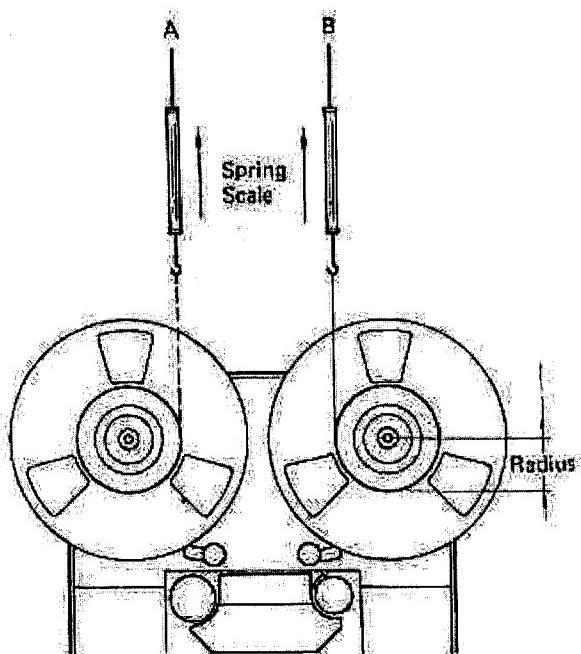

Fig. 9-4-2. Brake Torque Measurement
1. Mount an empty 10 1/2" reel onto either reel table and attach a spring scale to the reel with a string. See Fig. 9-4-2.
3. Follow steps 1 and 2 for each measuring condition, i.e., (A) and (B) in Fig. 9-4-2.